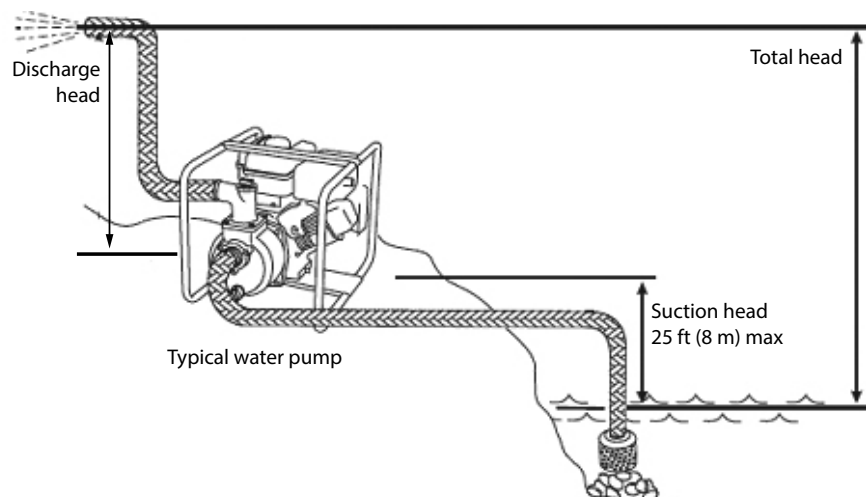

FIGURE 1
**Use this pump for water only**, where the vertical suction head from the water level is 25 ft (8 m) or less. Do not exceed the maximum suction head. Head refers to the height of a column of water that can be delivered by the discharge of the pump (Figure 1). Suction head (or suction lift) is the vertical distance between the center of the pump and the surface of the liquid on the suction side of the pump. Discharge head is the vertical distance between the pump's discharge port and the point of discharge. Total head is the sum of the suction head and the discharge head. The elevation above sea level and friction losses must be taken into consideration.